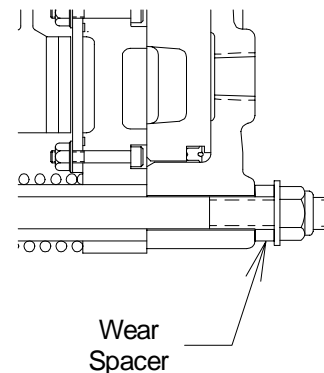

Fig. 12
- 4.1.3.11 The wear spacers are "stored" under the locknuts and washers for use after replacing the friction discs. See Figure 12.
- 4.2.16 The wear spacers are "stored" under the locknuts for use after replacing the friction discs. See Figure 12.